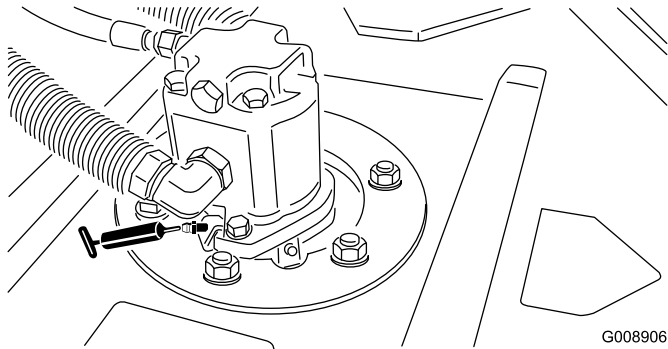

Figure 35
- Cutting unit spindle-shaft bearings (2 per cutting unit) (Figure 35)